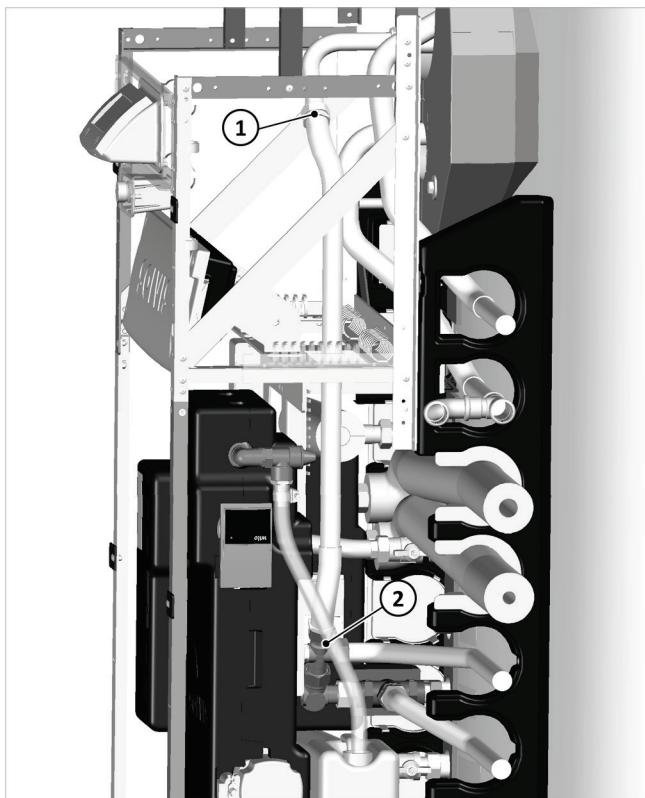

Fig. 9: Connection pipe fitted
4. Fit the connection pipe to the top pipe elbow (1), and route and connect it to the switching valve at the bottom (2) (see → Fig. 9).